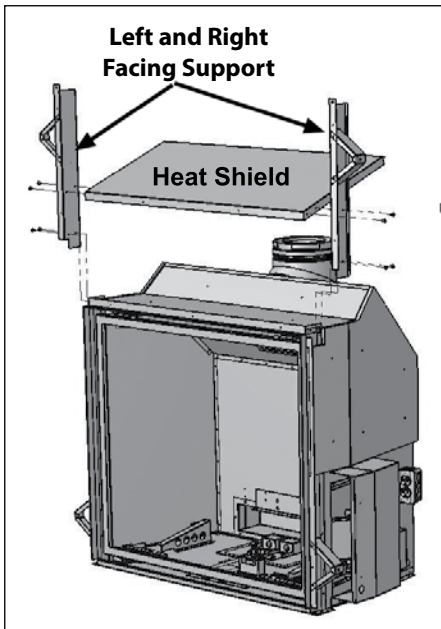

Figure 28: Installation of Supports & Heat shield.
1. Using eight (8) T-20 screws provided, install the facing supports right and left as well as the heat shield in the middle, as shown in Figure 28.